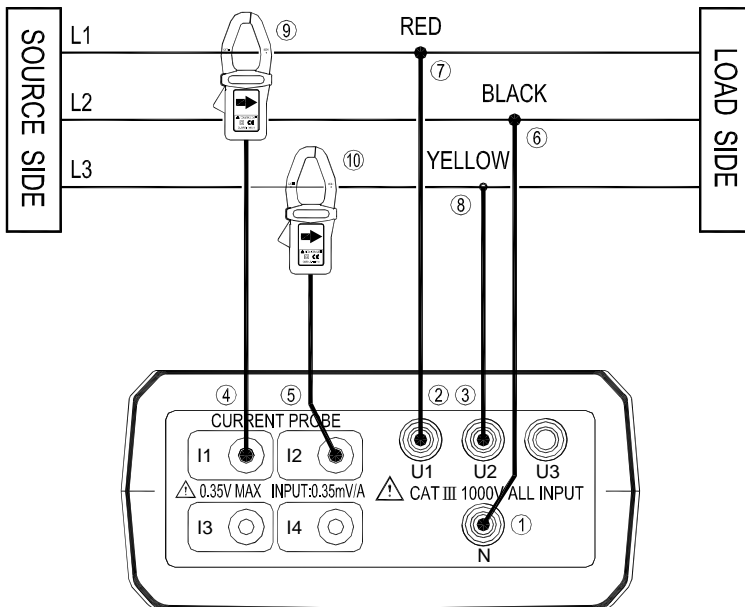

Figure 9. 3P3W2M Wiring Connection Diagram
- ① Connect the black voltage test lead to the "N" terminal.
- ② Connect the red voltage test lead to the "U1" terminal.
- ③ Connect the yellow voltage test lead to the "U2" terminal.
- ④ Connect the I1 current probe to the "I1" socket.
- ⑤ Connect the I2 current probe to the "I2" socket.
4. Connect the voltage test leads and current probes to the electrical equipment to be tested as shown in Figure 9. 3P3W2M Wiring Connection Diagram